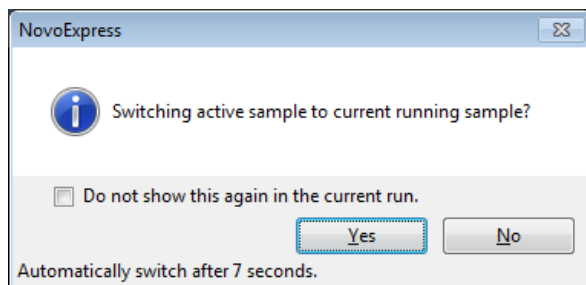

Figure 33. Window for Options on Determining the Active Sample during a Plate Run
- 4 During automated sample acquisition, when started acquiring a new sample, a window shown in Figure 33 will be prompted. In the prompted window, user can determine if the new sample will become the Active Sample. Active Sample is the sample shown in the Workspace for data analysis and indicated by a red arrow ➡ on the left of a sample in the **Experiment Manager** panel. Click **Yes** to make the sample to be acquired as the Active Sample so that you can observe the data for each new sample when it is acquired. Click **No** to keep the sample currently in analysis as the Active Sample so that you can continue working on the data analysis, in the meanwhile the rest of the samples are been acquired. If there is no user interference within 10 seconds after this window appears, NovoExpress Software will automatically make the new sample to be acquired as the Active Sample. Check the **Do not show this again in the current run** checkbox and click **Yes** or **No** to make your selection as default for the rest of the plate run.